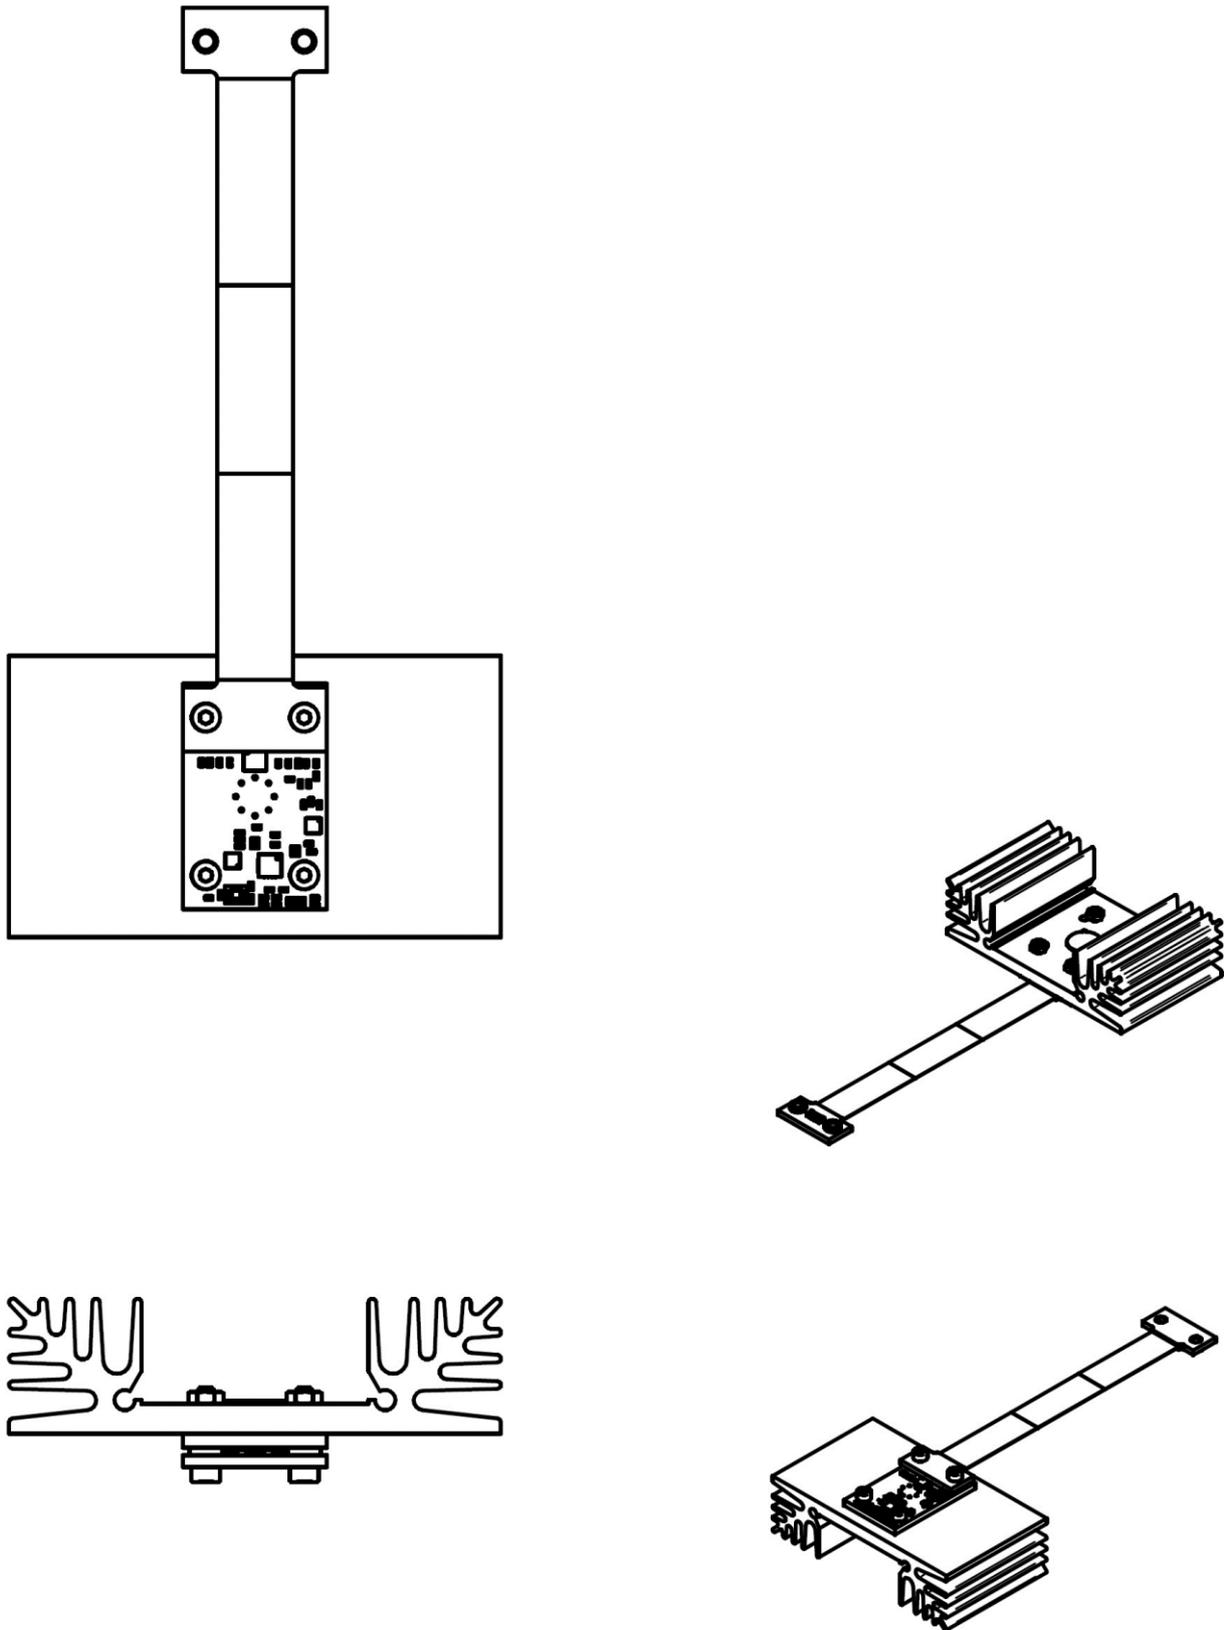

FIGURE 22. Example application of the AMS6140-01 with the flexible PCB
The second source of heat is the electronic components on the bottom of the PCB. For applications with high cooling power, it is recommended to leave the bottom side of the module uncovered. An example of such a solution is presented in FIGURE 22.
- Semi-flexible PCB. Receptacle *Amphenol 101R014FB110* has to be placed on the rigid part and the flexible part can be used to connect signals and power supplies to another PCB (FIGURE 22).